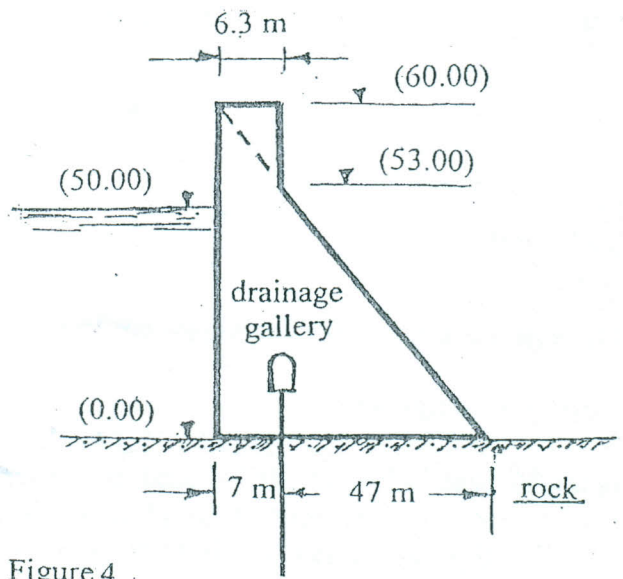

Figure 4
B. Figure 4 shows a non-overflow cross-section of a gravity dam. It is required to calculate the eccentricity of the resultant force acting on the dam base. The following conditions should be considered: